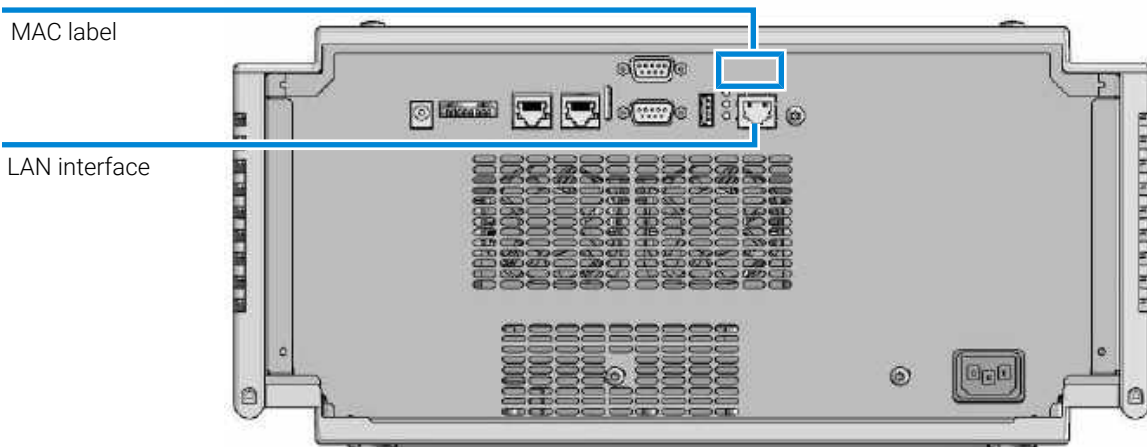

Figure 35: Location of LAN interface and MAC label
- 1 Note the MAC (Media Access Control) address for further reference. The MAC or hardware address of the LAN interfaces is a world wide unique identifier. No other network device will have the same hardware address. The MAC address can be found on a label at the rear of the module underneath the configuration switch (see Figure 35 on page 353).
- 2 Connect the instrument's LAN interface (see Figure 35 on page 353) to